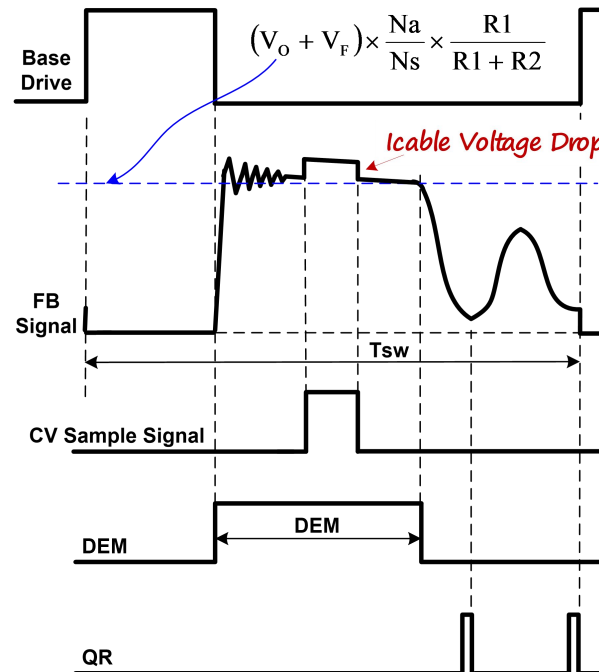

Fig.2
In Primary Side Regulation (PSR) control, the output voltage is sensed on the auxiliary winding during the transfer of transformer energy to the secondary. Fig.2 illustrates the timing waveform of CV sampling signal, demagnetization signal (DEM) and quasi-resonant (QR) trigger signal in DP2525B. When the CV sampling process is over, the internal sample/hold (S&H) circuit captures the error signal and amplifies it through the internal Error Amplifier (EA). The output of EA is sent to the Quasi Resonant PSR CV Modulator (QR-CVM) for CV regulation. A valley is selected to trigger new PWM cycle by the output of the QR-CVM block, which is determined by the load. The internal reference voltage for EA is trimmed to 2V with high accuracy.
During the CV sampling process, an internal variable current source is flowing to FB pin for Cable Drop Compensation (CDC). Thus, there is a step at FB pin in the transformer demagnetization process, as shown in Fig.2. Fig.2 also illustrates the equation for “demagnetization plateau”, where Vo and Vf is